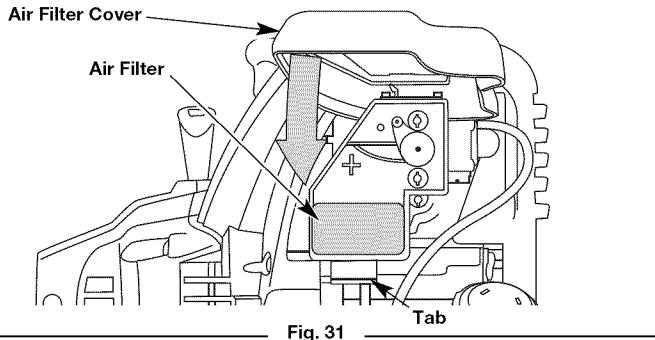

Fig. 31
8. Swing the cover down until the tab on the air filter backplate snaps into place in the slot on the air filter cover (Fig. 31).